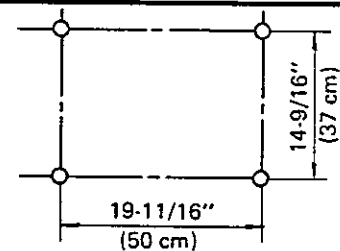

Fig. 19 Installation site
- Prepare the installation site so that 4 bolts can secure the condenser unit. (see Fig. 19)